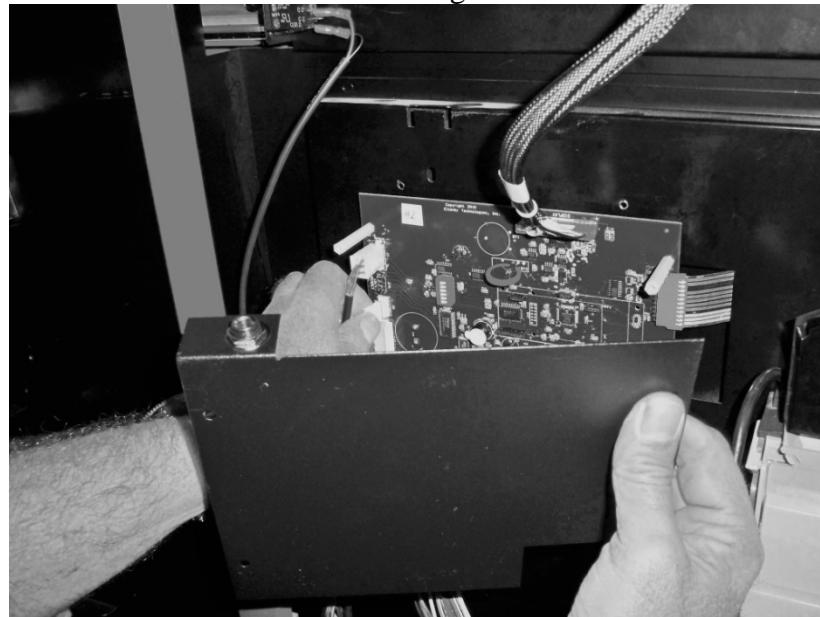

Figure 26
19. While supporting the Front Cover 05-1400-01 with one hand plug the DEX-27 cable into the VMC control board header marked "DEX" as shown in Figure 26.